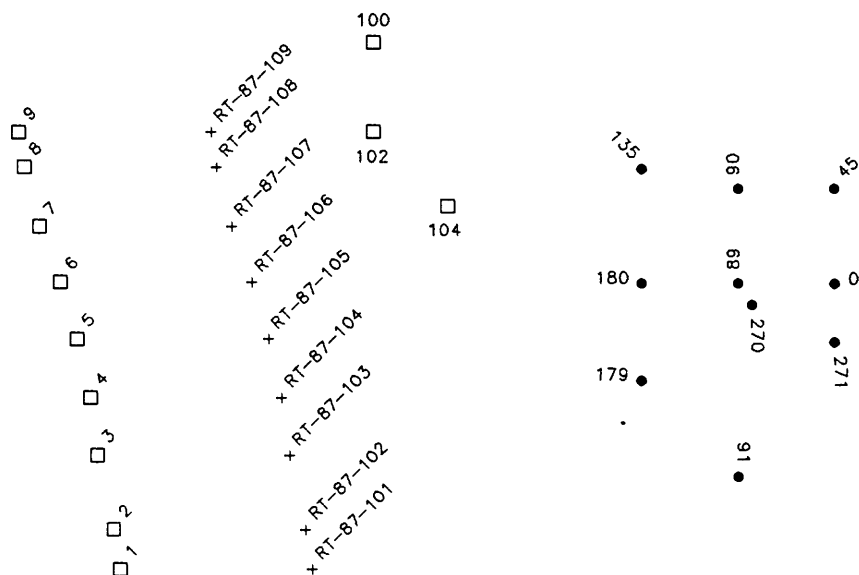

Figure 6. Posting of tabular data using 100-199 codes. Values next to filled circles correspond to the rotation angle entered as P2.
3. P 2: Angle of rotation of plotted posting, in degrees measured counterclockwise from the horizontal, completed with the A key. Use of the A key alone sets the P2 value to 0. This value selects horizontal posting to the right of the digitized point. **Angles between 91 and 269 degrees cause posting of numbers to the LEFT of the locality point, angles 270-360, 0-90 degrees plot to the RIGHT of the point, see Fig. 6.**
Data file 100.SAM for Figure 6:
Plot control file for Figure 6: